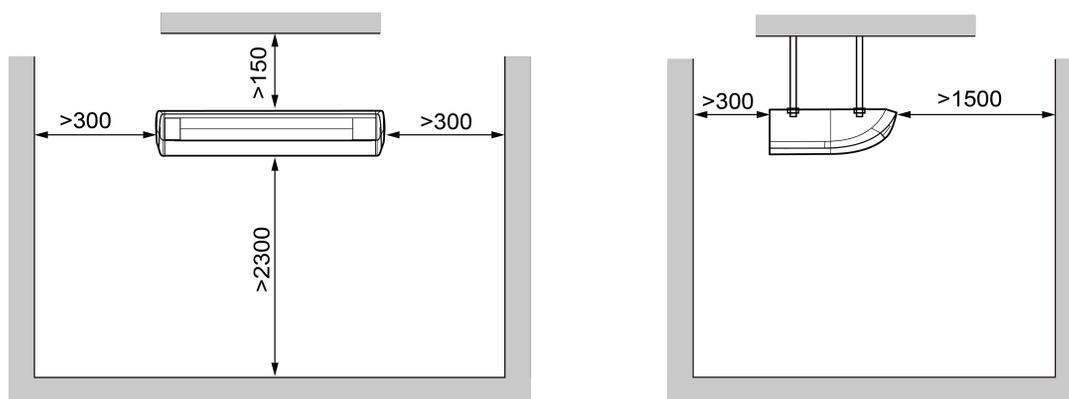

Fig.3.2
- (1) The location should be able to withstand the weight of unit.
- (2) The water can be drained conveniently from drainage pipe.
- (3) There should be no obstruction near air inlet and air outlet.
- (4) Follow the installation distance required in the Fig.3.2 below to ensure sufficient space for maintenance.
- (5) The installation location should be far from heat sources, flammable or explosive gas, or smog spread in the air.
- (6) The indoor unit, outdoor unit, power cord and connection electricity wire should be at least 1m from television and radio in order to prevent interference and noise. (Even though 1m distance is ensured, there may be noise if the electric wave is too strong.)